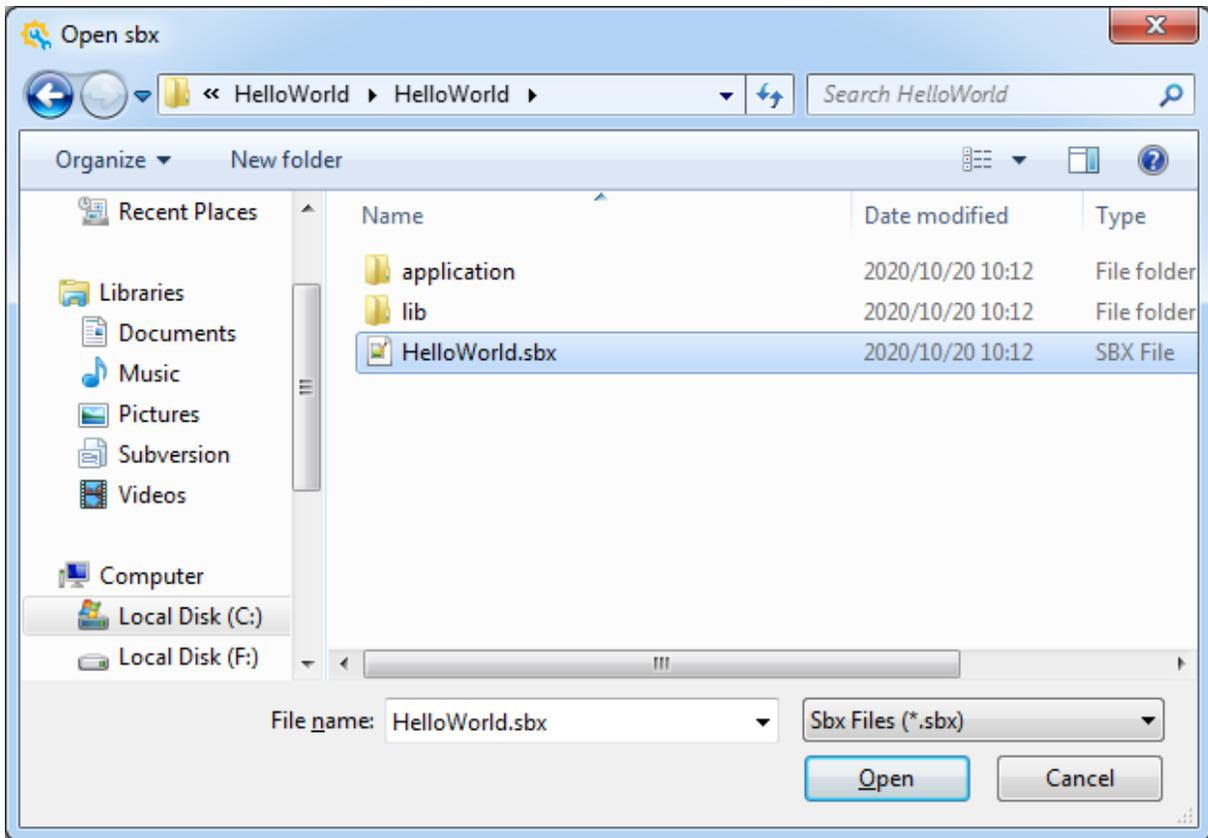

Figure 2.13. Open HelloWorld Project
2. Enter the sbx file path of an existing SoC Project such as HelloWorld (Figure 2.13).